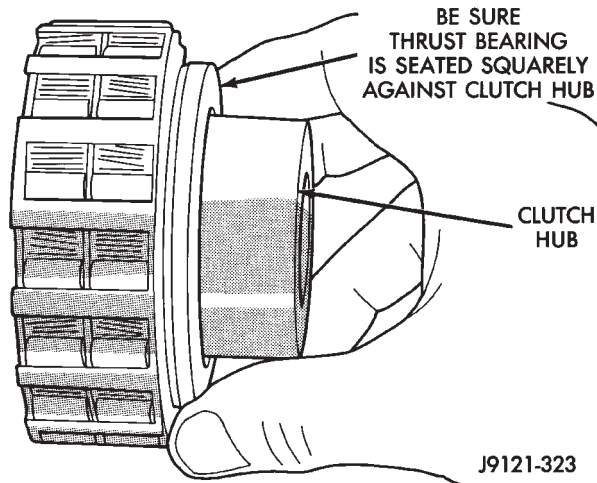

Fig. 41 Installing Overrunning Clutch Thrust Bearing
(11) Install thrust bearing on overrunning clutch hub (Fig. 41). Use generous amount of petroleum jelly to hold bearing in place for installation. **Bearing fits one way only. Be sure bearing is seated squarely against hub. Reinstall bearing if it does not seat squarely.**